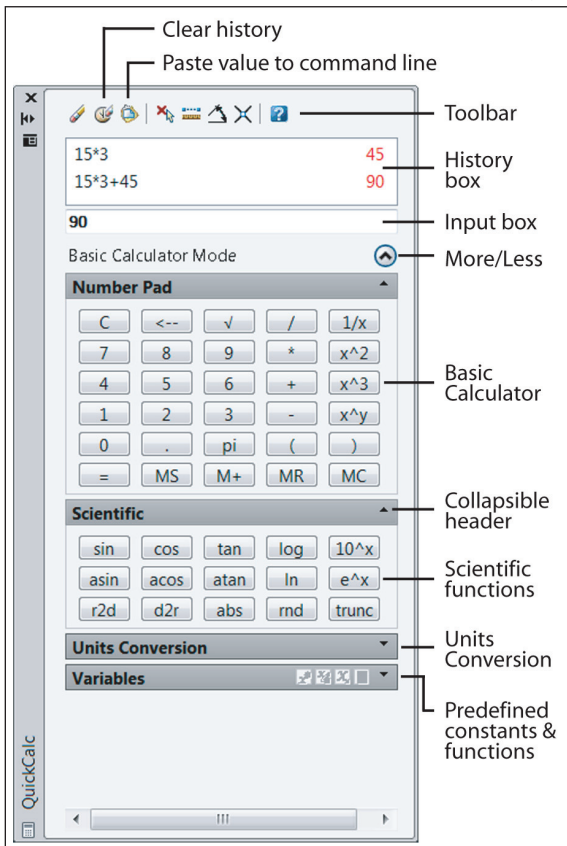

Figure 6: Press CTRL+8 to access AutoCAD's calculator palette.
To open the updated calculator, press CTRL+8. (Note: If this is your first time opening the Calculator Palette, it may appear in a collapsed state. Press the More button to expand it on screen as shown in Figure 6.
4. Click the icon at the top of the palette labeled "paste value to command line" (see Figure 6) and press Enter to finish the polygon.